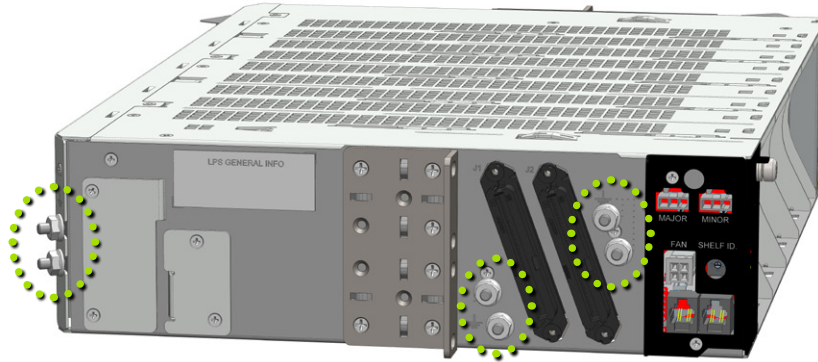

Figure 2 Ground Connections for LPS36 Shelf
Grounding the shelf: Each shelf has three (3) sets of Ground studs for user convenience. One pair appears at the rear of the shelf, the other two on the left side of the shelf near the Amphenol output connectors. The positions are shown in Figure 2.